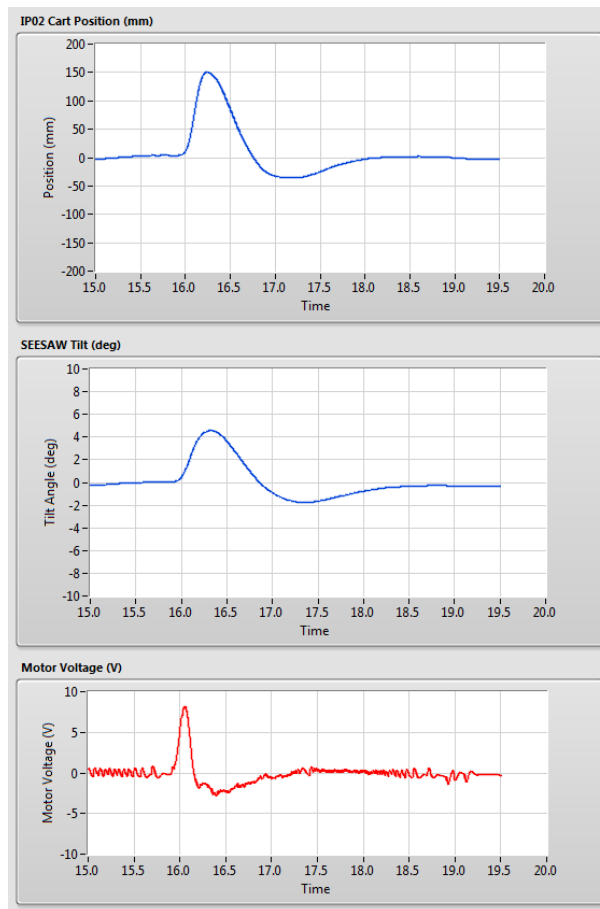

Figure 3.5: Typical response when disturbing the SEESAW system
5. In order to verify that the LQR tuned response satisfies your design specifications, an external disturbance needs to be introduced. Once the system has stabilized, gently tap the seesaw to introduce a disturbance of about ± 5 degrees from the horizontal equilibrium position. The system response should resemble the scopes shown in Figure 3.5.